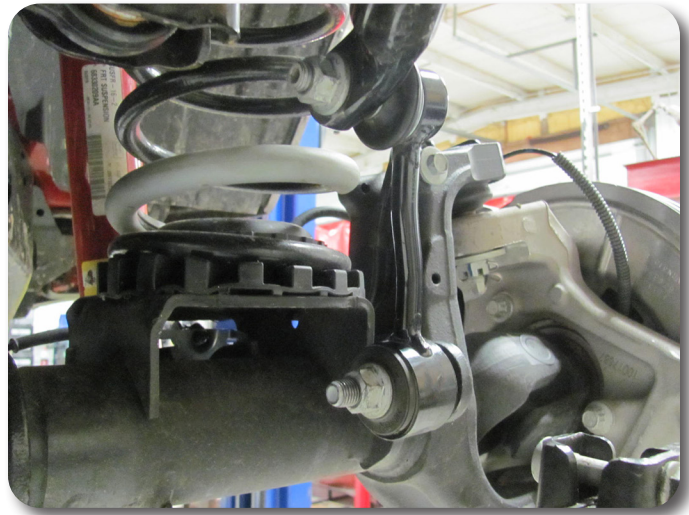

Figure 1
2. Disconnect the factory sway bar links from the axle and sway bar. Figure 1 The links and hardware will not be reused.